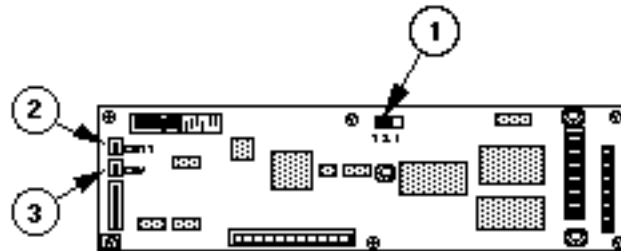

FIGURE 6
- A selector switch that allows this board to be used with both the mechanical and the optical paper sensor (Figure 6, #1). If a mechanical paper sensor is installed, the jumper should be on pins 1 and 2. If an optical paper sensor is installed, the jumper should be on pins 2 and 3. An extra connector, CN11, that is used for the optical paper sensor (Figure 6, #2). Connector CN9 is used for the mechanical paper sensor (Figure 6, #3).